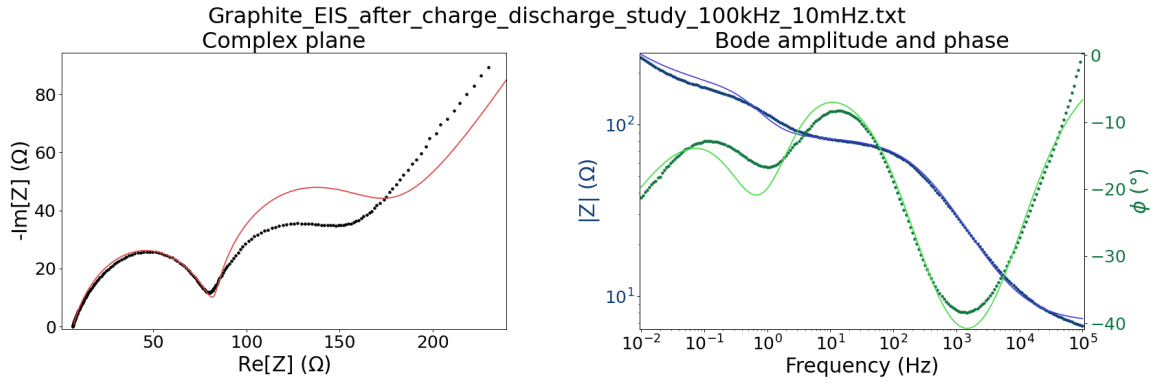

Figure 28: Li|C impedance spectrum after tuning  $n_1$ ,  $Q_1$ , and  $R_1$ .
10. To better match the initial guess to the data in the complex plane, the CPE exponents  $n_1$  and  $n_2$  should be decreased. However, decreasing  $n_1$  will cause the model's  $|Z|$  to differ greatly from the measured data. This can be remedied by adjusting  $Q_1$ . A final, small adjustment of  $R_1$  gives rise to Figure 28.